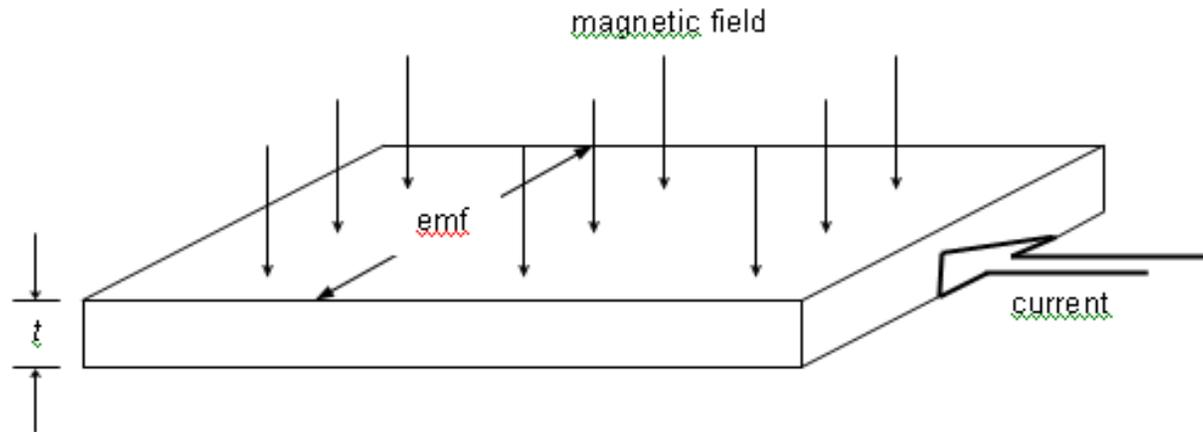

Figure 2: Hall-effect sensor
**Hall-effect current sensors** are typical semiconductor devices. They operate on the principles that the voltage difference across a thin conductor carrying a current depends on the intensity of magnetic field applied perpendicular to the direction of the current flow. This is illustrated in figure 2. Electrons moving through a magnetic field experience Lorentz force perpendicular to both the direction of motion and to the direction of the field.